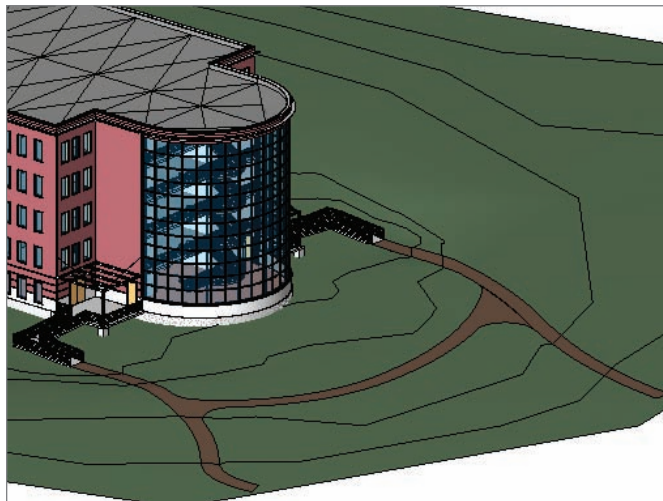

FIGURE 18.13 The sidewalks in 3D
10. Go to a 3D view and compare yours with Figure 18.13.